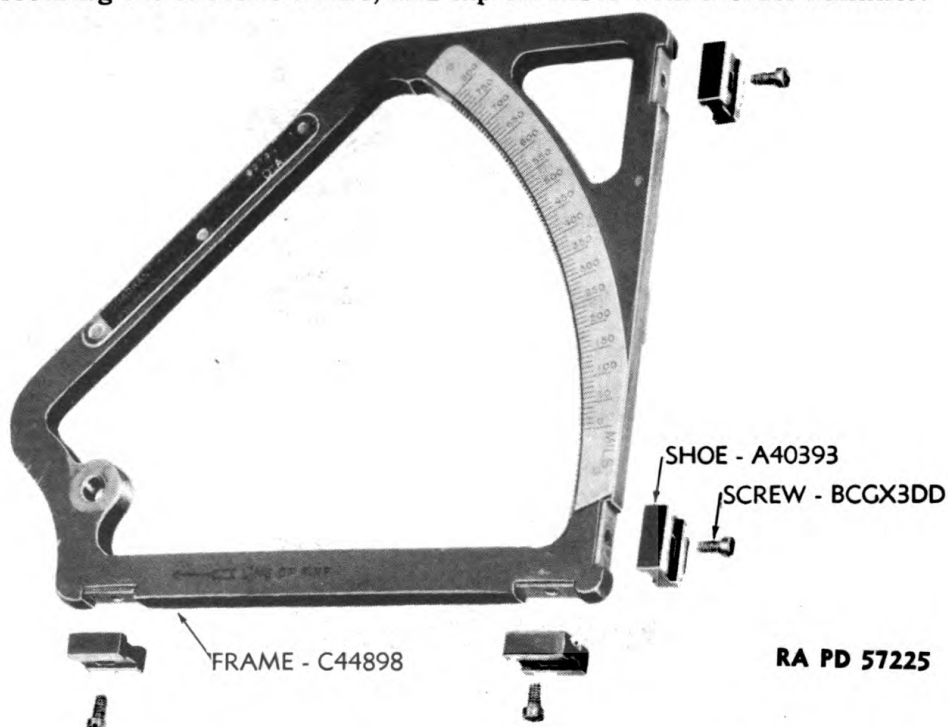

Figure 13—Gunner's Quadrants M1 and M1918—Frame with Shoes Removed
- (7) **REMOVE SHOES FROM FRAME** (fig. 13). Remove the screws securing the shoes to frame, and tap off shoes with a brass hammer.
a. **Install Shoes to Frame** (fig. 13). Place shoes in position on frame, and secure with screws. Refer to paragraph 16 for adjustment of shoes.
- (1) File the portion of the leveling clamp screw riveted to the clamping screw knob in order to free knob.
- (2) Drive clamping screw knob from clamping screw, and remove screw through the inside of level guide.
f. Remove Shoes from Frame (fig. 13). Remove the screws securing shoes to frame assembly, and tap off shoes with 3-ounce brass hammer.
a. Install Shoes to Frame (fig. 13). Place shoes in position on frame, and secure with screws. See shoe adjustment paragraph 16.